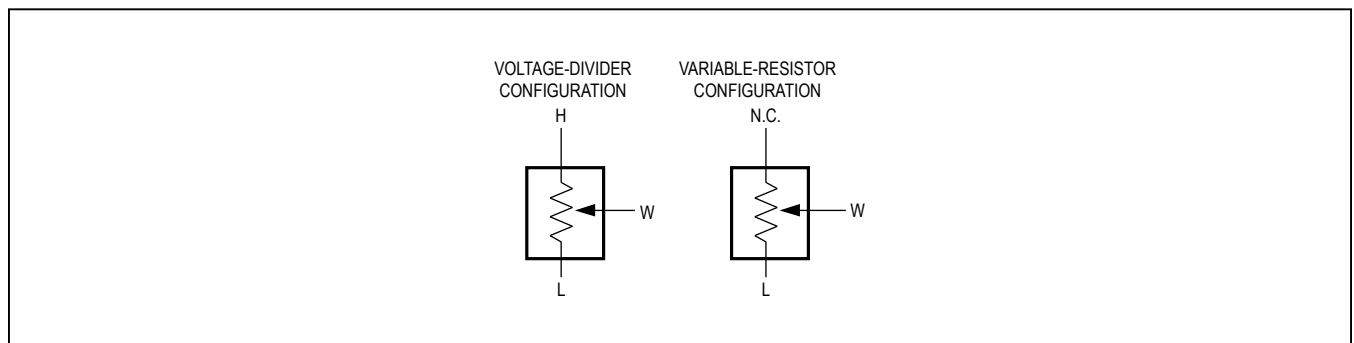

Figure 1. Voltage-Divider/Variable-Resistor Configurations
**Note 2:** DNL and INL are measured with the potentiometer configured as a voltage-divider (Figure 1) with  $H = V_{DD}$  and  $L = GND$ . The wiper terminal is unloaded and measured with an ideal voltmeter.
**Note 3:** R-DNL and R-INL are measured with the potentiometer configured as a variable resistor (Figure 1). DNL and INL are measured with the potentiometer configured as a variable resistor.  $H_-$  is unconnected and  $L_- = GND$ . For  $V_{DD} = +5V$ , the wiper terminal is driven with a source current of  $400\mu A$  for the  $10k\Omega$  configuration,  $80\mu A$  for the  $50k\Omega$  configuration, and  $40\mu A$  for the  $100k\Omega$  configuration. For  $V_{DD} = +2.6V$ , the wiper terminal is driven with a source current of  $200\mu A$  for the  $10k\Omega$  configuration,  $40\mu A$  for the  $50k\Omega$  configuration, and  $20\mu A$  for the  $100k\Omega$  configuration.